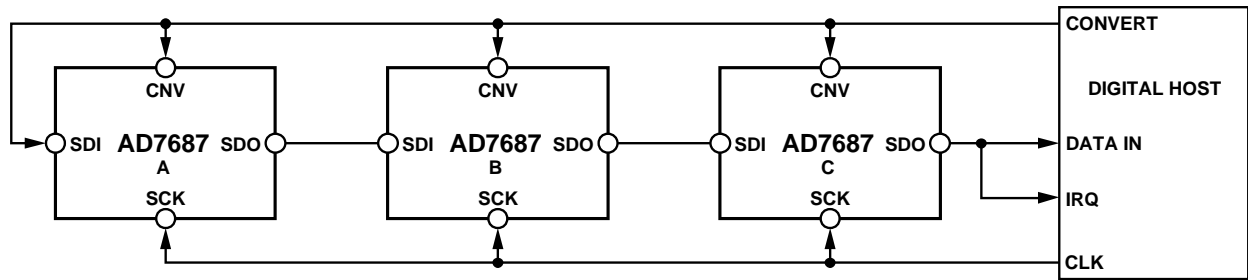
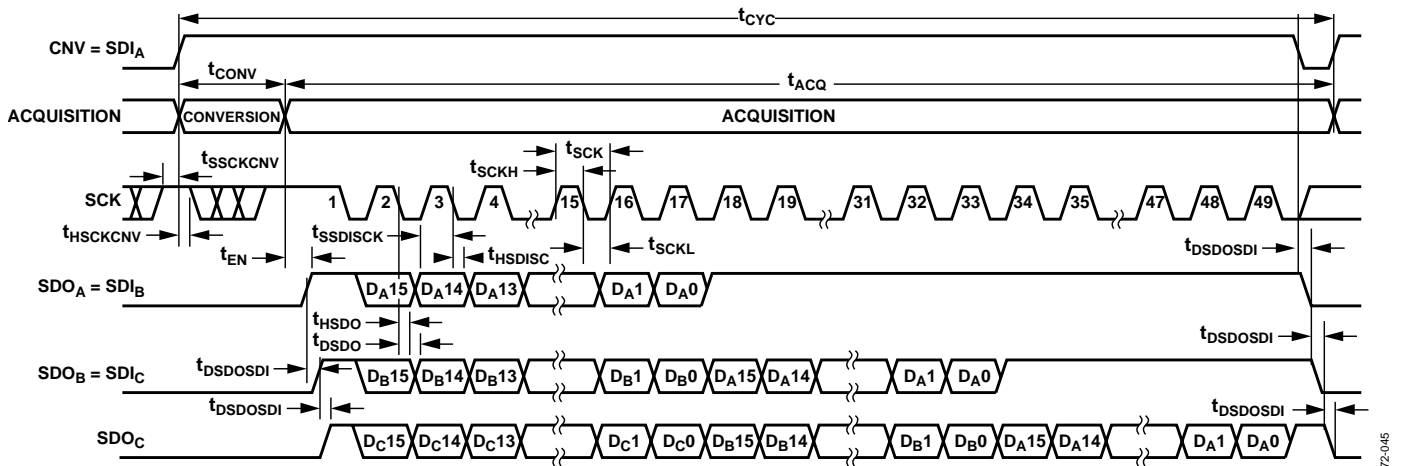

Figure 45. Chain Mode with BUSY Indicator Connection Diagram
Figure 46. Chain Mode with BUSY Indicator Serial Interface Timing
- In the chain mode, if SCK is high during the CNV rising edge (Figure 46).
A connection diagram example using three AD7687s is shown in Figure 45 and the corresponding timing is given in Figure 46.
Figure 45) SDO is driven high. This transition on SDO can be used as a BUSY indicator to trigger the data readback controlled by the digital host. The AD7687 then enters the acquisition phase and powers down. The data bits stored in the internal shift register are then clocked out, MSB first, by subsequent SCK falling edges. For each ADC, SDI feeds the input of the internal shift register and is clocked by the SCK falling edge. Each ADC in the chain outputs its data MSB first, and $16 \times N + 1$ clocks are required to readback the N ADCs. Although the rising edge can be used to capture the data, a digital host using the SCK falling edge allows a faster reading rate and consequently more AD7687s in the chain, provided the digital host has an acceptable hold time. For instance, with a 3 ns digital host setup time and 3 V interface, up to eight AD7687s running at a conversion rate of 220 kSPS can be daisy-chained to a single 3-wire port.